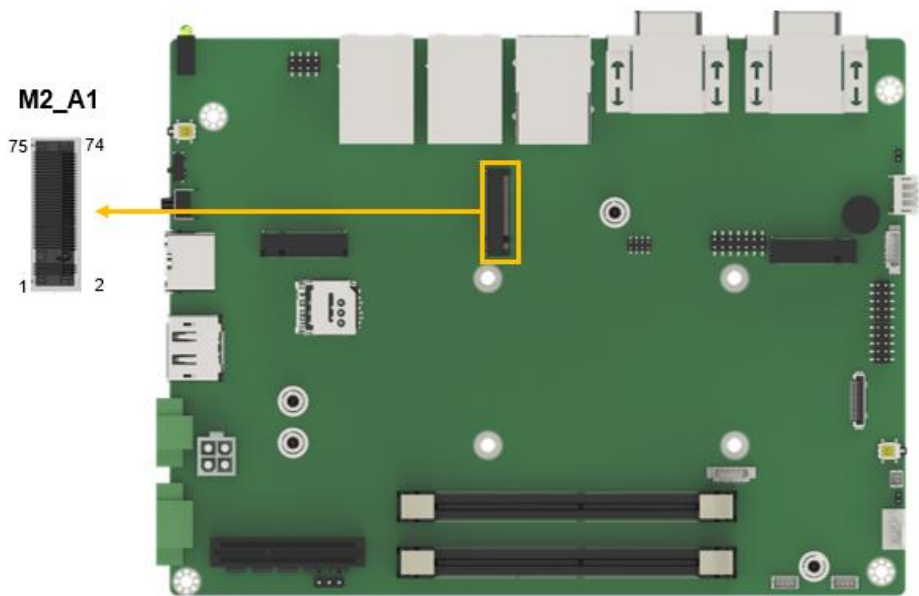

Figure 4-10: M.2 A-key Slot Location
- CN Location: See Figure 4-10